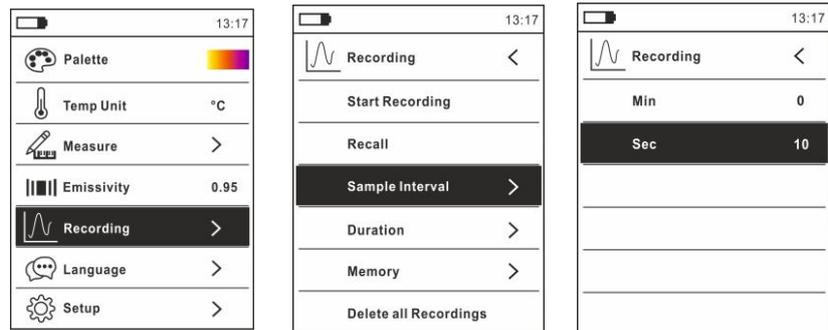

Fig.35 Data logger function – Setting of the sampling interval
2. Press key **MENU** , select item “Recording” and press key . The screen in Fig.35 – left side appears on the display
3. Select item “Sample Interval” (see Fig.35 – middle) and press key  to select the sampling interval for recording. The screen in Fig.35 – right side appears on the display.